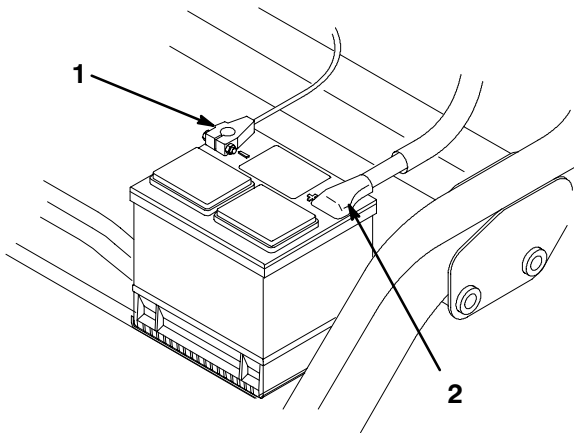

Figure 4
4. Install the positive cable (red) to the positive (+) terminal and the negative cable (black) to the negative (-) terminal of the battery and secure them with the bolts and nuts (Fig. 4). Slide the rubber boot over the positive terminal to prevent a possible short from occurring.